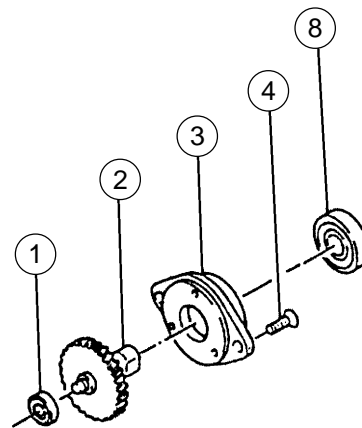

Fig. 12
7-1-6. Removal of the Spindle and Gear Set (Fig. 12)
- (1) Loosen the two Seal Lock Flat Hd. Screws M5 x 12 [4]. Tap the end surface of the Gear Cover [34] with a wooden hammer, then the parts shown in Fig. 12 can be removed.
- (2) Push the end surface of the spindle using a hand press to remove the Ball Bearing 6002DDCMPS2L [8].
- (3) Remove the Ball Bearing 626VVC2PS2L [1] with a bearing puller.